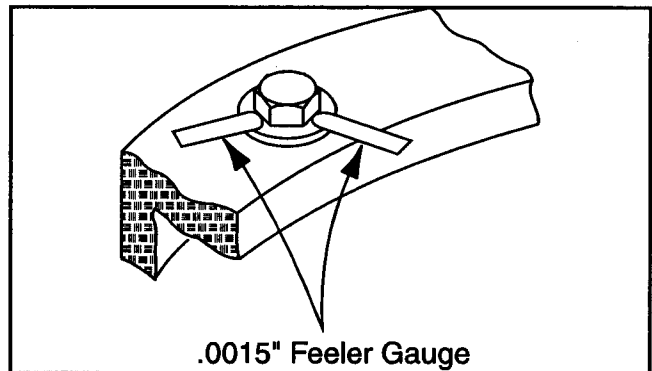

Figure 2-26. Swing Bearing Bolt Feeler Gauge Check.
2-13. PRESSURE SETTING PROCEDURES. (In Sequence) (See Figure 2-26)
2. At the positions indicated on Figure 2-26. try and insert the .0015" feeler gauge between the bolt head and hardened washer at the arrow indicated position.